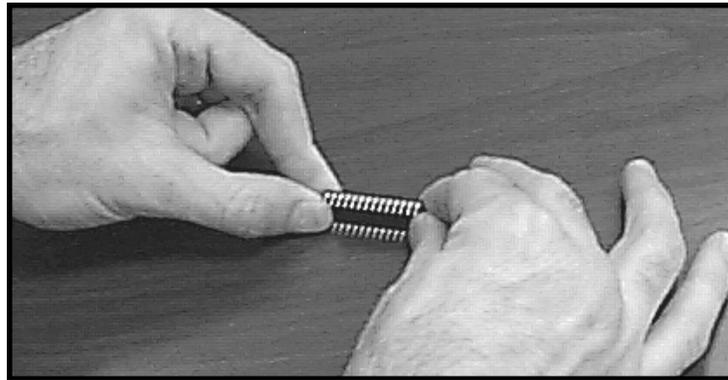

FIGURE 2-3
7. It may be necessary to bend the pins on one or both edges of the chip inward very slightly to achieve this alignment. To do this, grasp the left and right-hand edges of the chip and orient the chip so that the pins are facing you (See Figure 2-3). Place the pins on one side of the chip on a flat surface and apply mild pressure to bend the pins by angling the top edge of the chip toward you. Check the alignment of the pins with the socket as before. If necessary, bend the pins on the opposite edge of the chip.